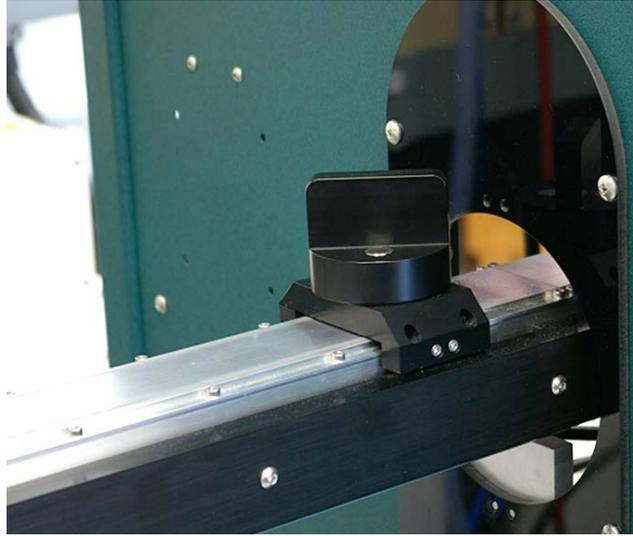

Fig. 12. Sample holder rotation handle. NOTE: the holder rotation direction is opposite to the handle rotation direction.
- 9) Fix the holder by rotating the black handle (Fig. 12) counter clockwise (the sample holder rotates clockwise). Stop as soon as you feel more resistance than normal!